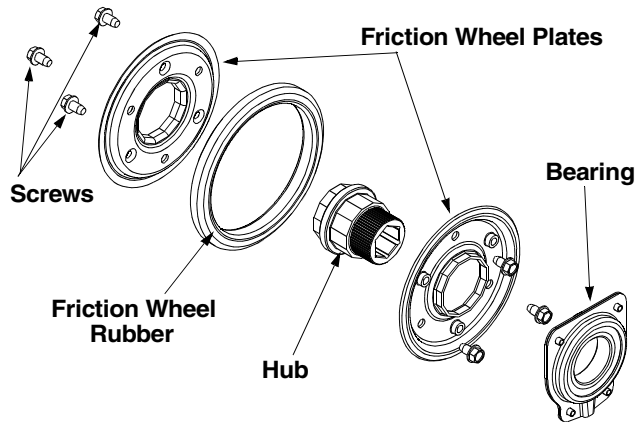

Figure 24
- Remove the six screws from both sides of the friction wheel assembly. Remove friction wheel rubber from between the friction wheel plate as shown in Figure 24.